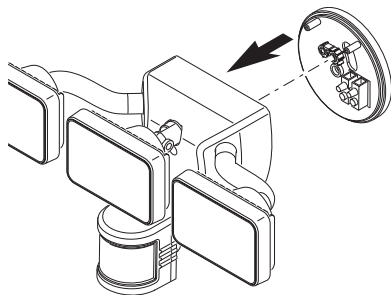

Figure 1
1. Unscrew the large mounting bolt connecting the light fixture to the mounting plate and remove the mounting plate (see Figure 1). The mounting bolt is designed to stay in the light fixture.